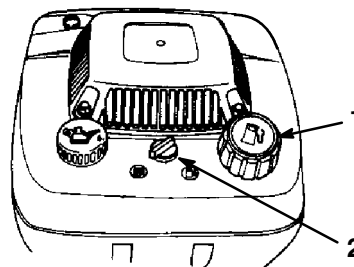

Figure 7
1. Clean around the fuel tank cap (Fig. 7).